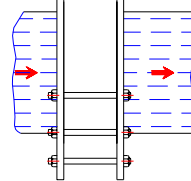

Fig 3.
5. Install valve and gaskets into pipeline as (Fig.3).